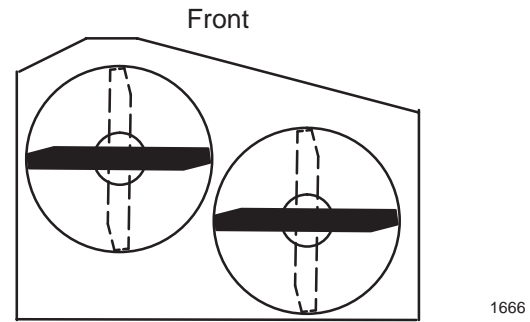

Figure 27
1. Rotate the blades until the ends face forward and backward (Fig. 27).